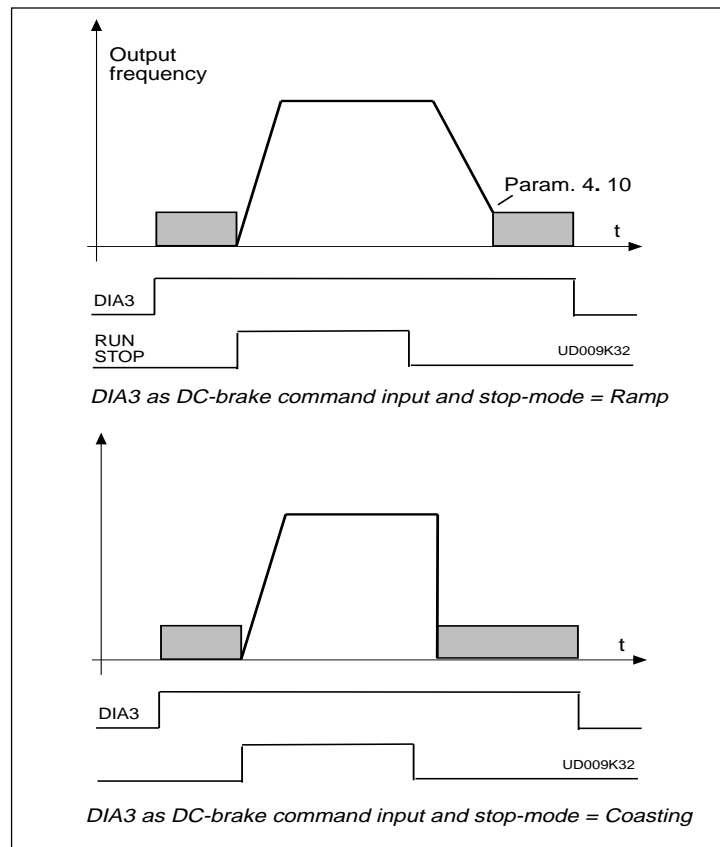

Figure 6.5-1 DIA3 as DC-brake command input:
- 9: DC-braking command contact closed = In the stop mode, the DC-braking operates until the contact is opened, see figure 6.5-1. Dc-brake current is set with parameter 4. 8.
| 9: DC-braking command   | contact closed = In the stop mode, the DC-braking operates until the contact is opened, see figure 6.5-1. DC-brake current is set with parameter 4. 8. |